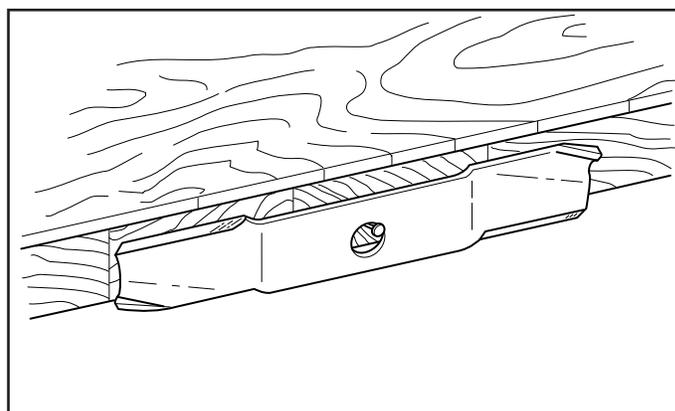

Figure 22
5. Balance the blade as shown in Figure 22. Place the center hole of the blade on a nail lubricated with a drop of oil. A balanced blade will remain level.